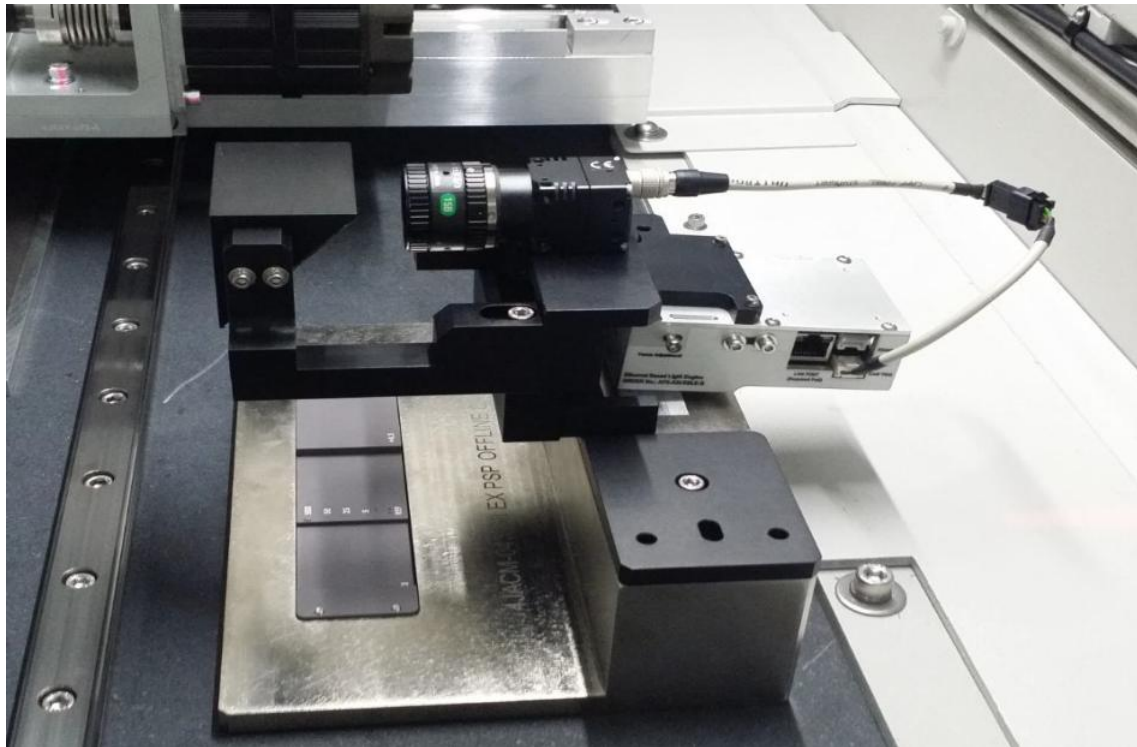

Figure 3 OFFLINE JIG & MODULE LOCATION
3. Open Front Access Door , gently allocate “S2EX PSP Adjustment Offline Jig ” (Part ID- 4XASPP-A003) at Granite area (May refer to below Figure 3 for the desire location)